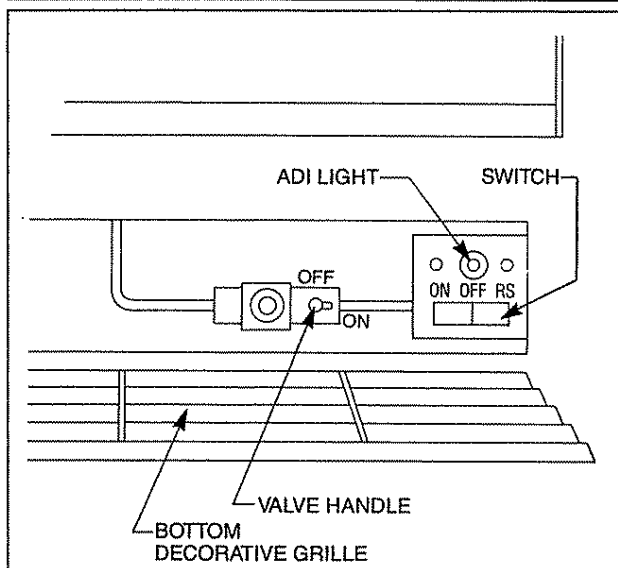

Fig. 27. G2000adi controls.
5. Wait five (5) minutes to clear out any gas. If you then smell gas, **STOP!** Follow "B" in the safety information. If you don't smell gas, go to next step.
7. Push in control knob all the way and hold. Immediately start pushing red piezo button at least once every second until pilot lights. Continue to hold the control knob in for about one (1) minute after the pilot is lit. Release knob and it will pop back out. Pilot should remain lit. If it goes out, repeat Steps 4 through 7.
9. Turn switch to "ON". (See Fig. 27.) Switch is in same position for G2000pi and G2000adi.
3. Turn switch on the unit to "OFF". Turn wall switch "OFF" if used. Turn wireless remote if used to "OFF". (See Fig. 27.)
5. Turn the valve handle counterclockwise to "OFF". Valve handle is shown in "ON" position in Fig. 27.
6. Wait five (5) minutes to clear out any gas. If you then smell gas, **STOP!** Follow "B" in the safety information above. If you don't smell gas, go to next step.
7. Turn the valve handle clockwise to "ON". (See Fig. 27.)